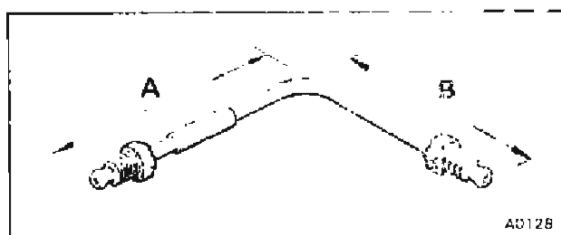

Fig. 2
- 14 If the car is already fitted with hydraulic filters adjacent to the height control valve, it will be necessary to locally produce two pipes to connect the filters to the height control valves (see fig. 2).